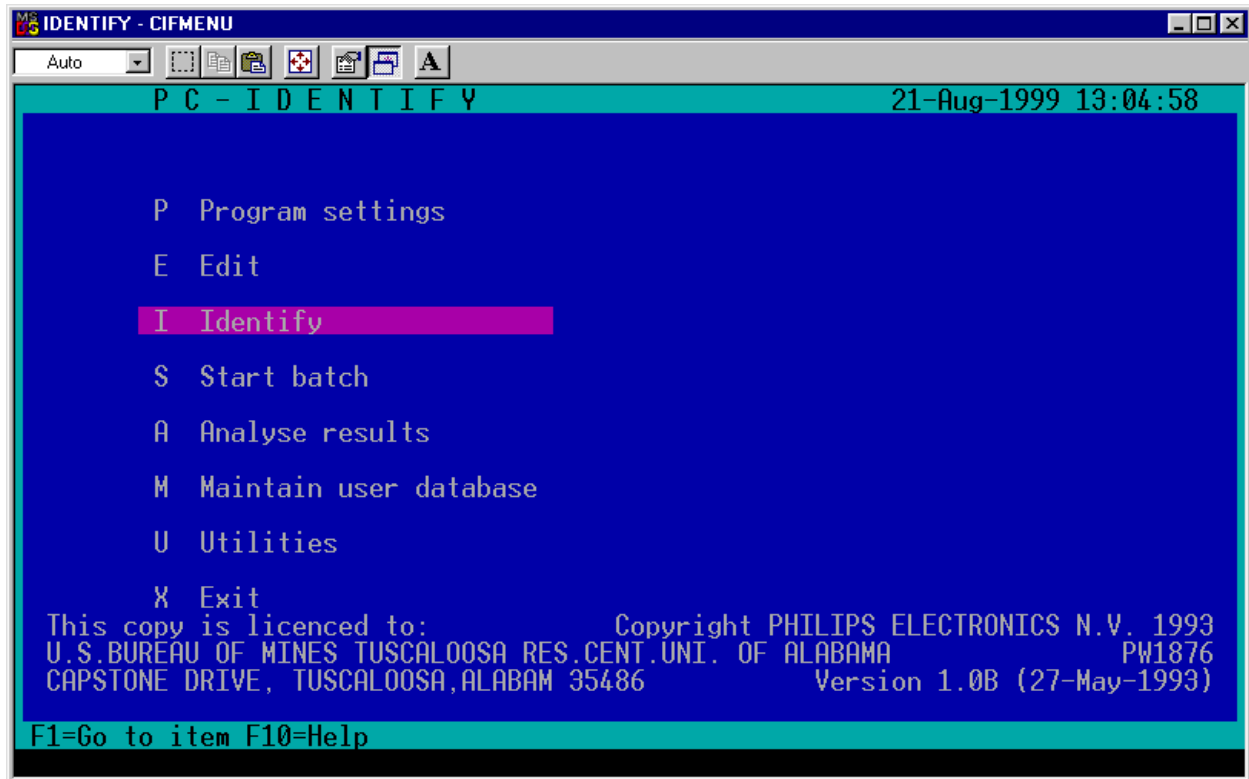

Figure 3. PC-Identify main window.
23. You will be brought to the PC-Identify main window (Figure 3).